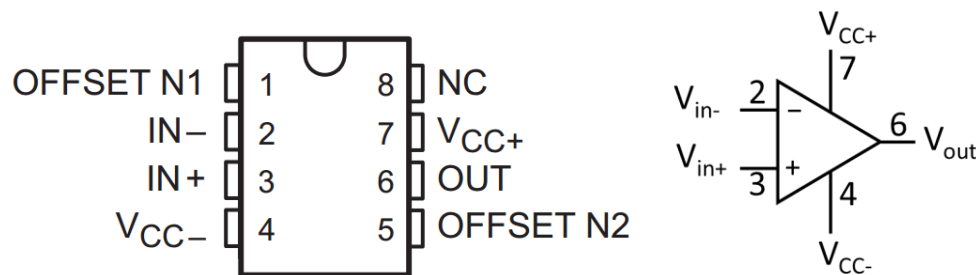

Figure 2: μ A741 Op-amp Pin Numbering and Assignment
Dual in-line packages have a notch at one end or a dot in one corner in order to provide visual identification of the orientation of the package. In case of a dot, it is located next to Pin 1 and in case of a notch, it is located between Pins 1 and 8. The rest of the pins are numbered counter-clockwise as shown in Figure 2. For this particular op-amp, Pin 8 is not connected (NC). Pins 1 and 5 are used to eliminate any offset voltage and will not be used in this lab. The remaining of the pin assignments are shown in Figure 2.